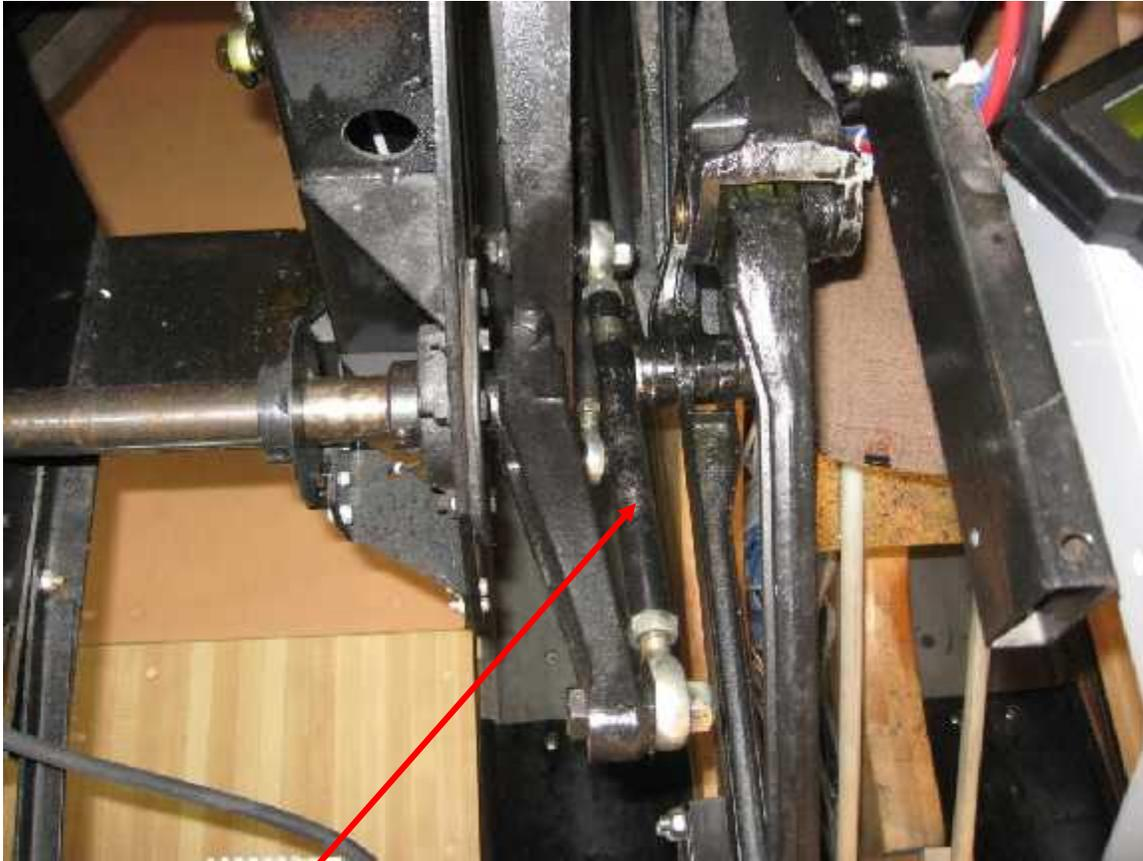

Figure 6
4. In figure 6, this is the sweep overall travel rod. This rod's length determines how far the sweep travels rearward. Where do you position the sweep to make this adjustment?